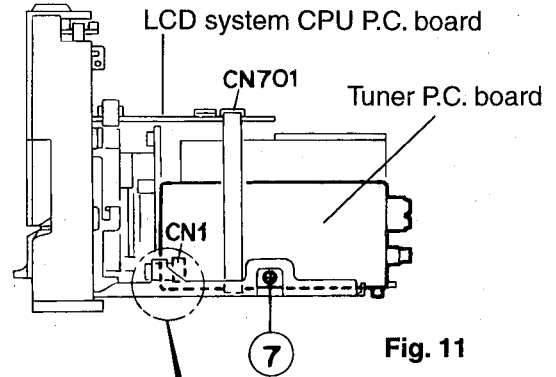

Fig. 11
3. From the connector CN603 on the CD servo control P.C. board, disconnect the card wire outgoing from the power amplifier P.C. board (See Fig. 11)
4. From the connector CN604 on the CD servo control P.C. board, disconnect the card wire outgoing from the connector CN766 on the LCD system CPU P.C. board. (See Fig. 11)
5. Disengage the left and right engagements **a** and **b** fixing the CD player unit by using a minus screw driver, etc. (See Figs. 11 and 12)
(See Fig. 11)